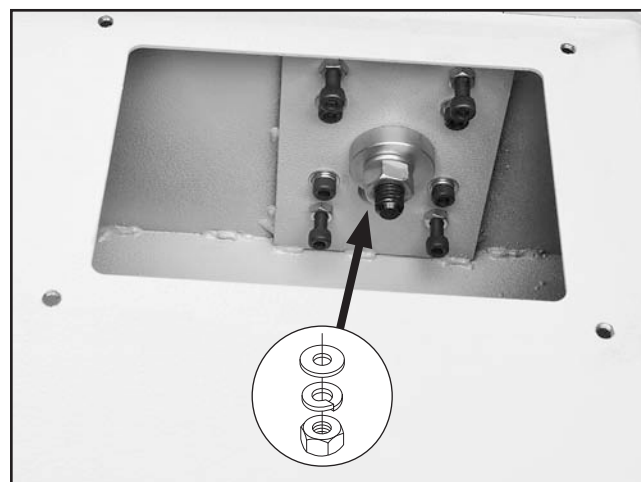

Figure 24. Location of the forward sliding table T-bolt from the rear of the frame.
21. Remove the panels on both sides of the frame to gain access to the forward and rear sliding table T-bolts (see **Figure 24** for the location of the forward access T-bolt).